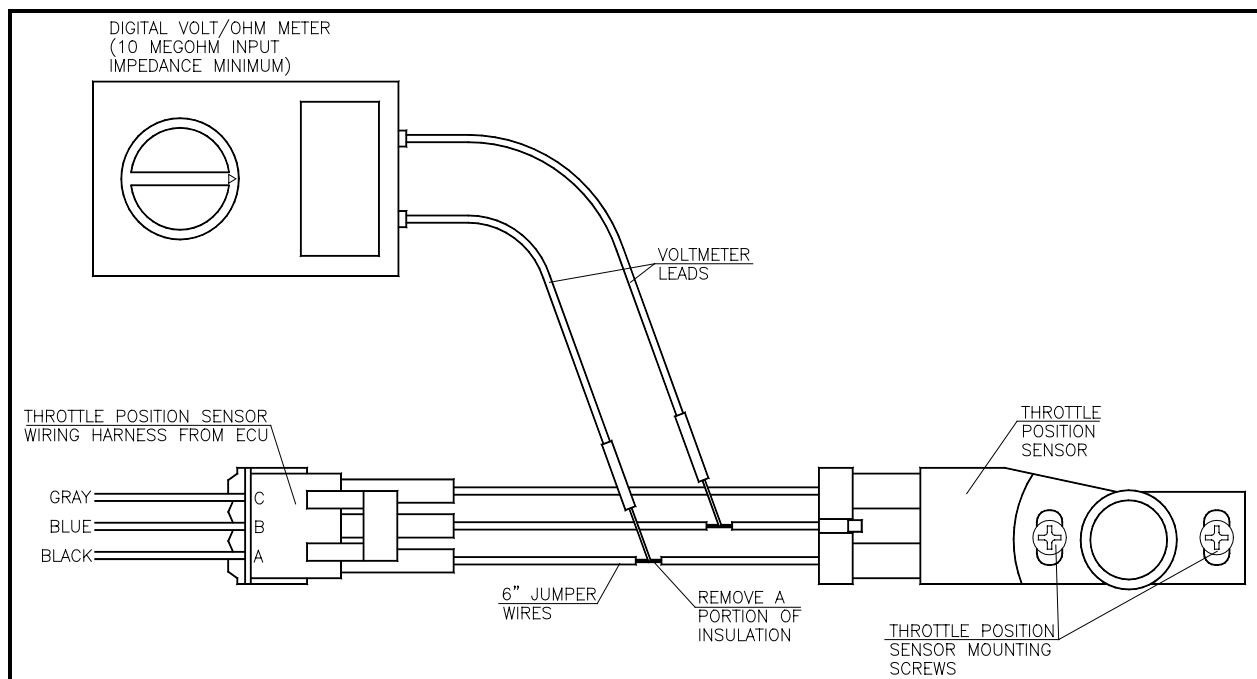

Figure 17
1. Disconnect the three-position connector from the TPS and install three jumper wires as shown in Figure 17.